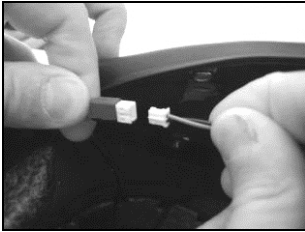

Fig. 16
- Connect the battery to the wiring system. (Fig. 16)